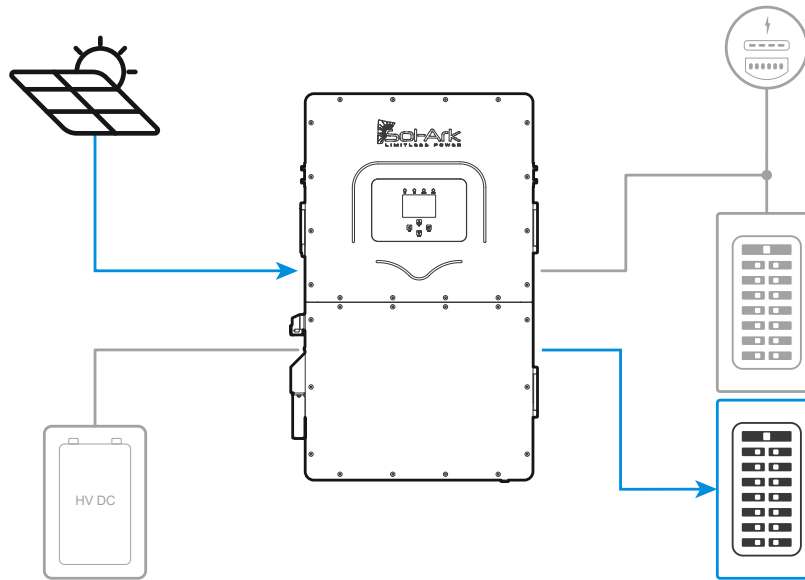

Figure 29: Operating Mode Diagram - Limited Power to Load
**IT system-neutral is not GND:** Configures an inverter to operate in either a Wye or Delta configuration (See Fig: 29)